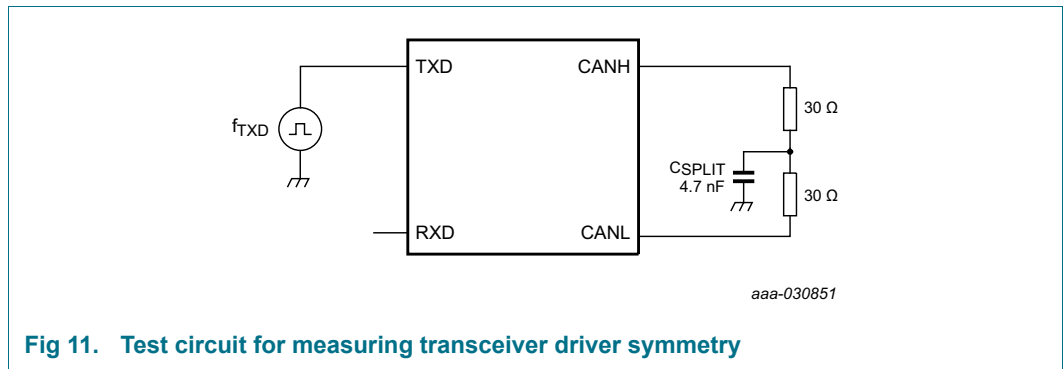

Fig 11. Test circuit for measuring transceiver driver symmetry
- [4] The test circuit used to measure the bus output voltage symmetry (which includes  $C_{SPLIT}$ ) is shown in Figure 11.